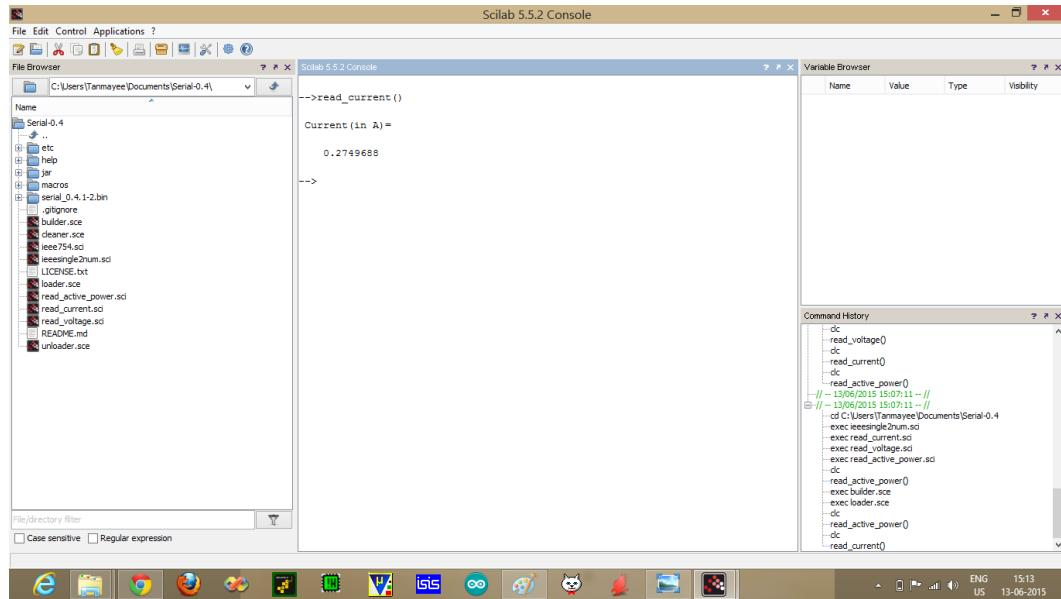

Figure 11.8: Single Phase Current Output on Scilab Console
1. Single phase current output: Fig. 11.8 and Fig. 11.9 show Scilab code output of current in Amperes and corresponding snapshot of Energy Meter display with a single load rated 60W-230V.